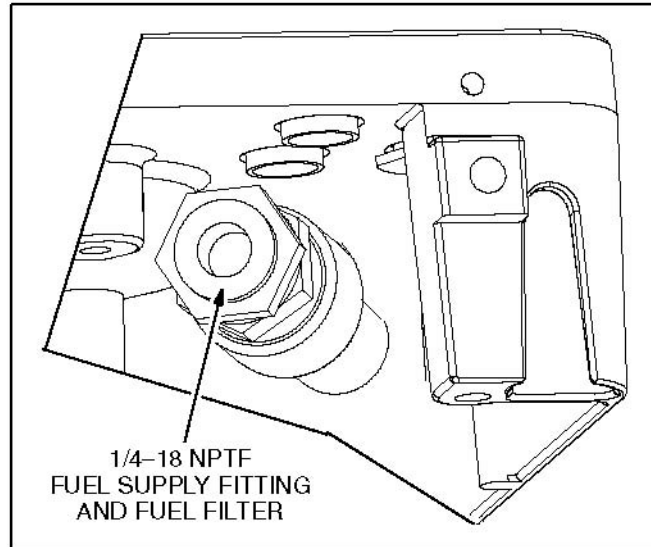

FIGURE 56. HIGH-PRESSURE LPG FI
1. Remove the filter at the generator set supply inlet (Figure 56).